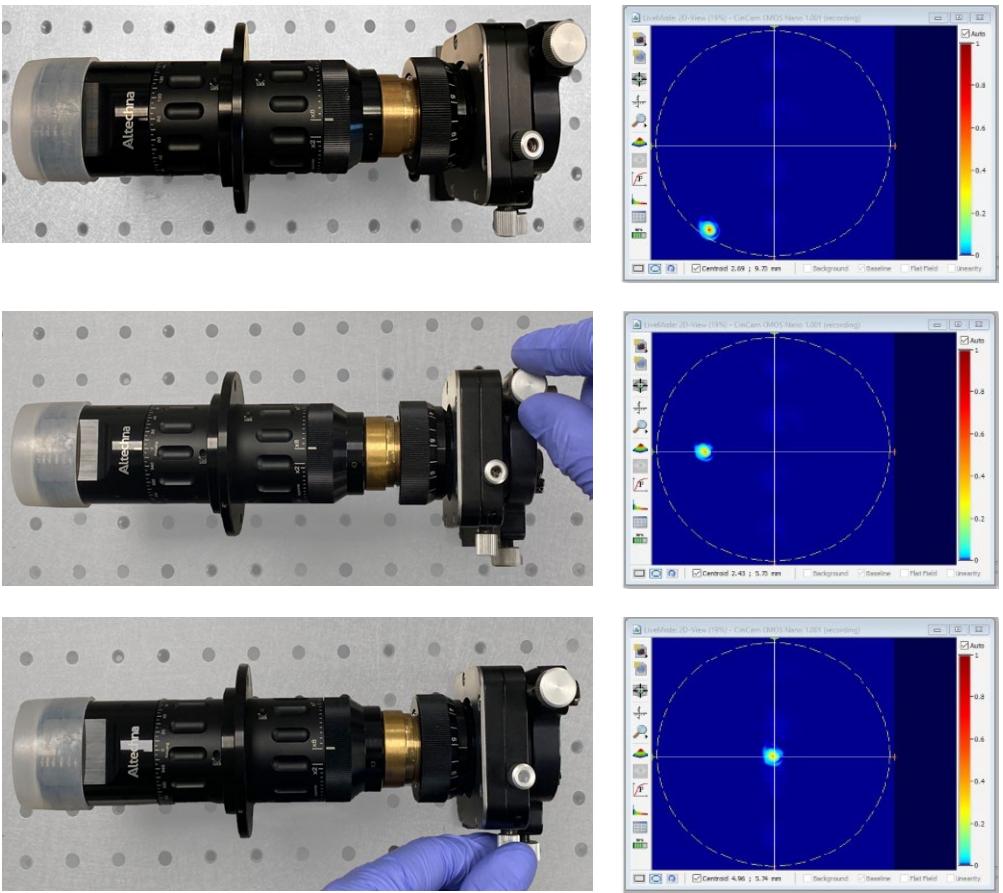

Figure 15. Centering laser beam.
4. After VBE placement into optical beam path laser beam will be decentered on the screen. By adjusting tilt ($\theta_x; \theta_y$) get the laser beam spot back to the center of the camera where crosshair was placed for reference (fig. 15).